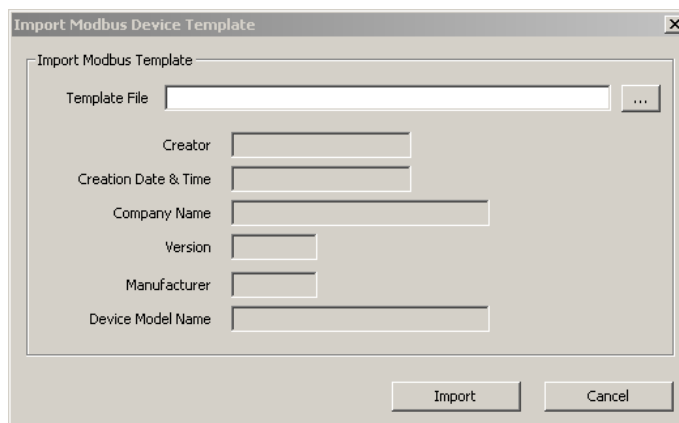

Figure 233 Import Device Template dialog.
2. This opens the **Import Modbus Device Template** dialog shown in Figure 233.